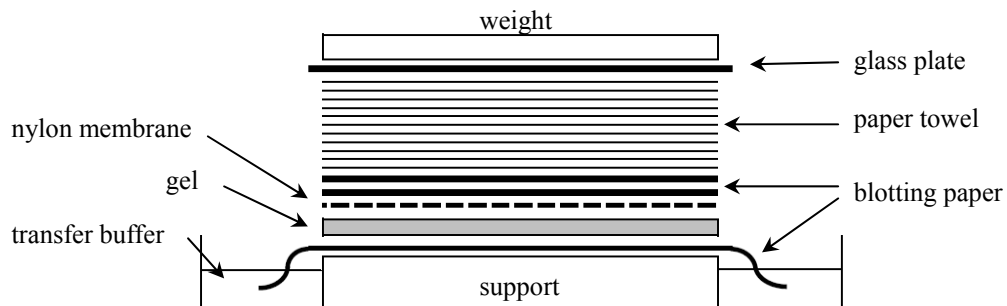

Figure 3: Upward Capillary Transfer.
- 3) Transfer the DynaMarker® Prestain Marker for RNA High and RNA from the gel to positively charged nylon membranes. (see figure 3 and 4)